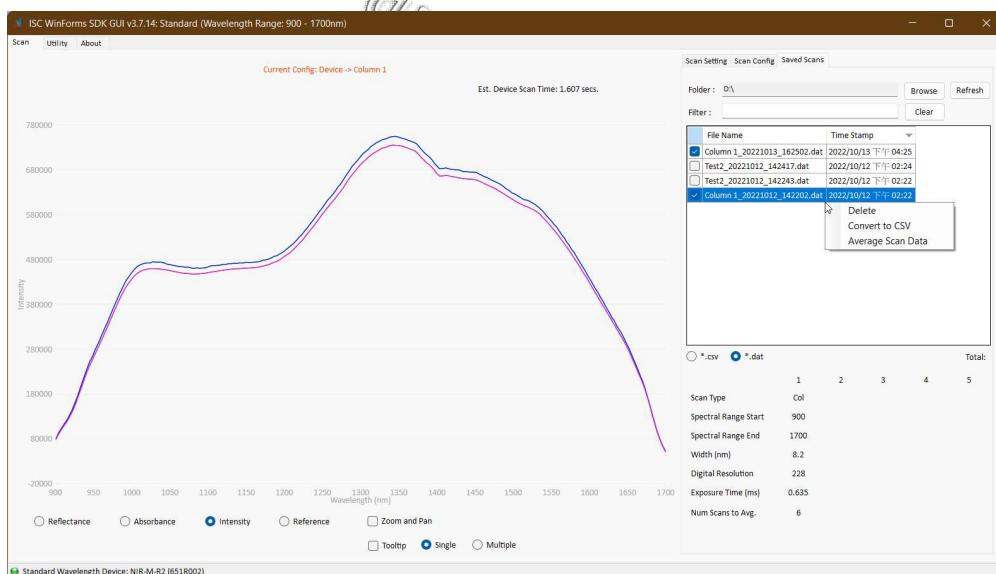

**Figure 1-3 Scan Config**
The scan config is divided three sections shown in Figure 1-3:
- ◆ **Oversampling:** This number displays the rate of sampling patterns. It is calculated by the used digital resolution devided by the number of wavelength range divided by pattern width (rounded to integer). For example in the figure 1-3 will be  $228 / ((1700 - 900) / 8) = 2.28$ . The results shown is rounded to the first decimal digital, so it is 2.3. The software limits the maximum oversampling rate to 4.5 and recommends the rate to be between 2 to 3.